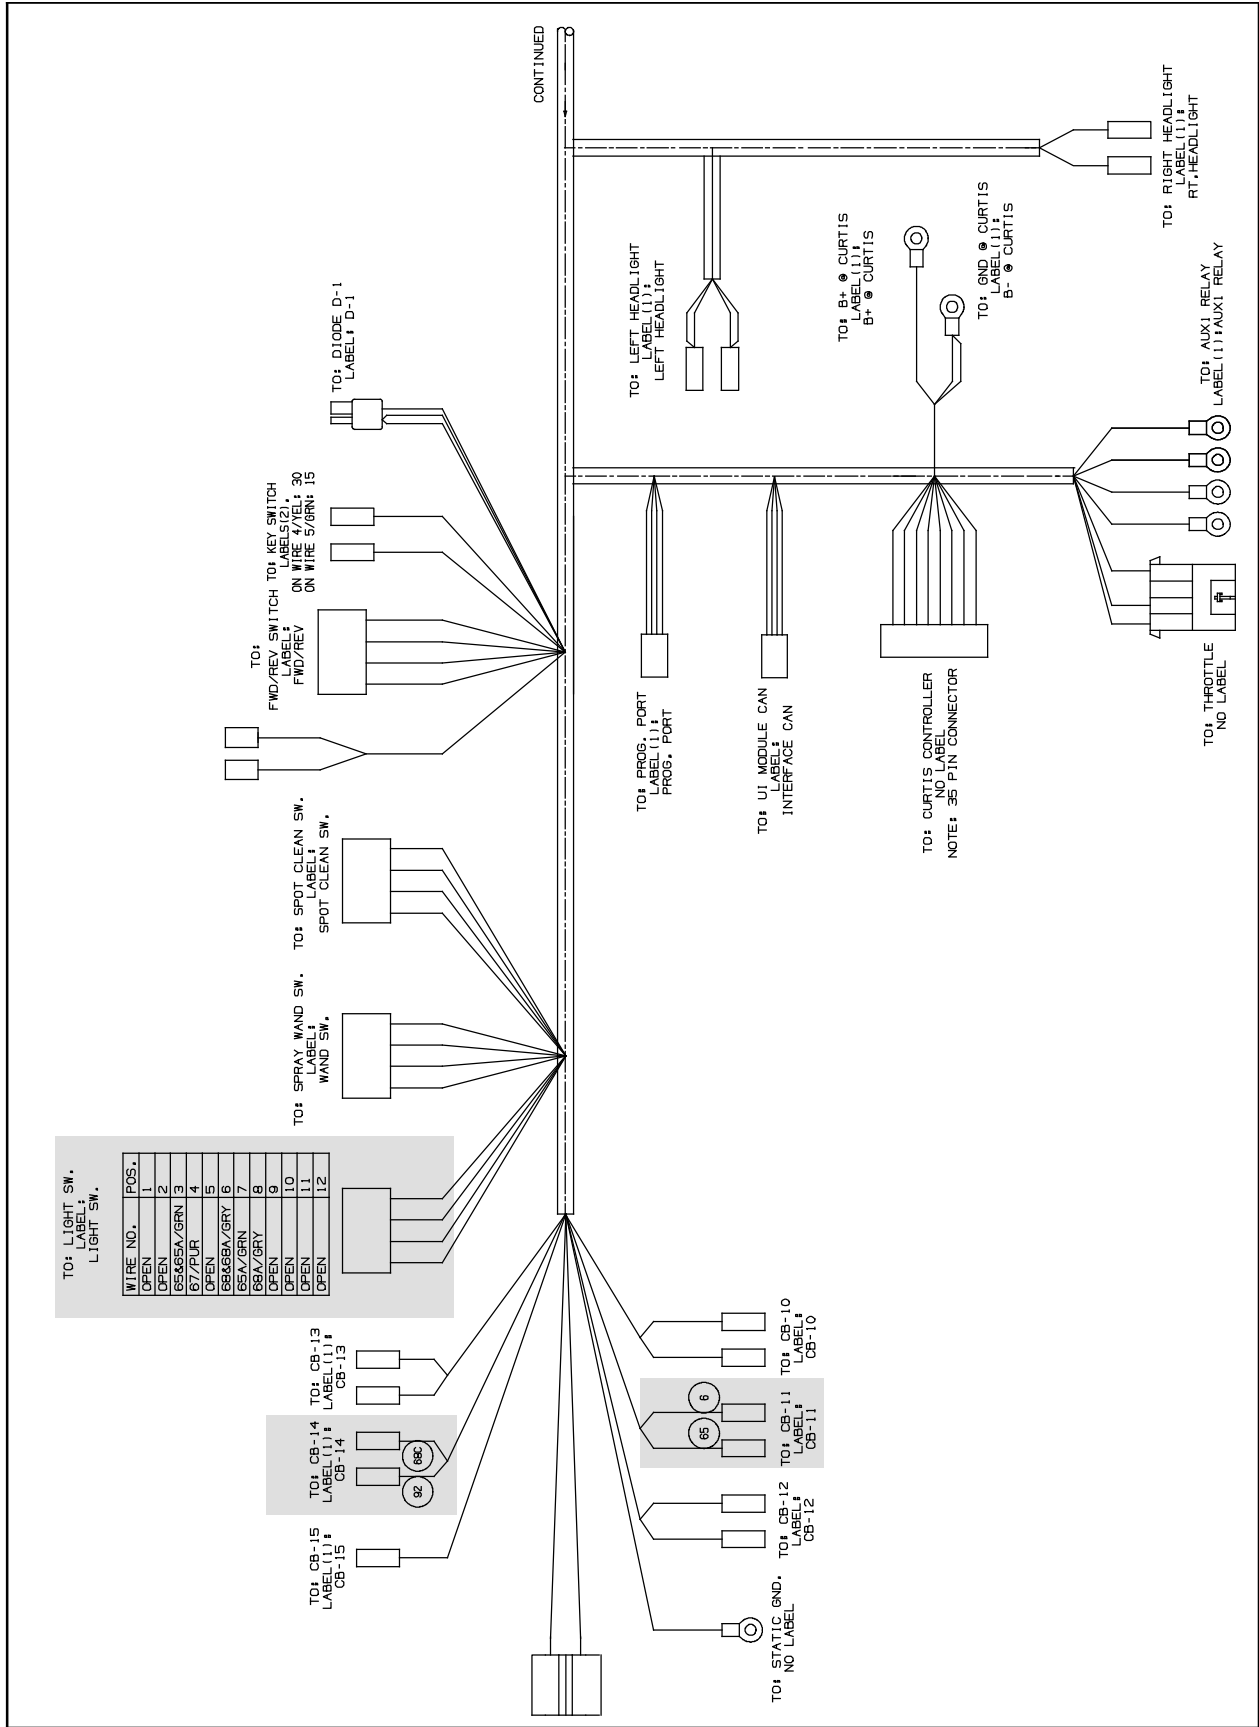
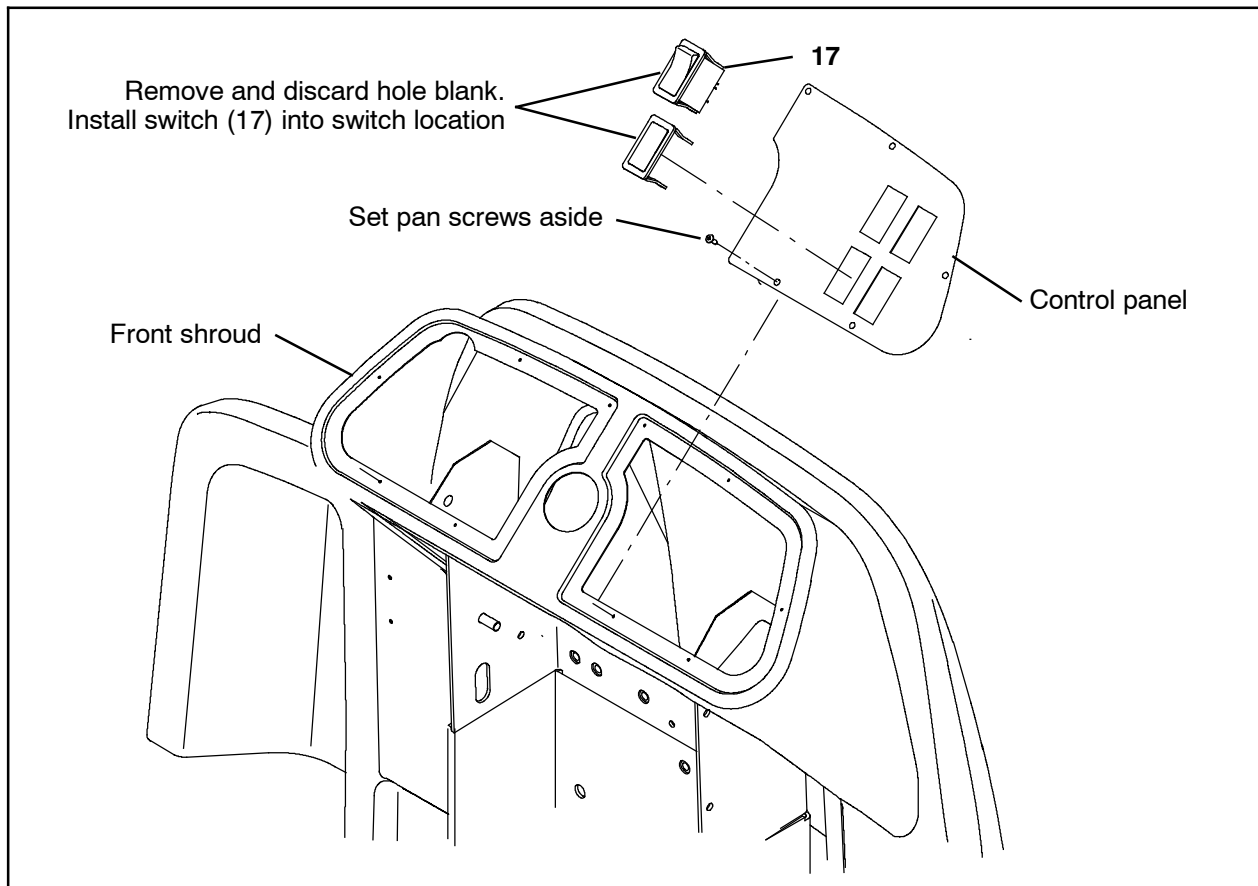
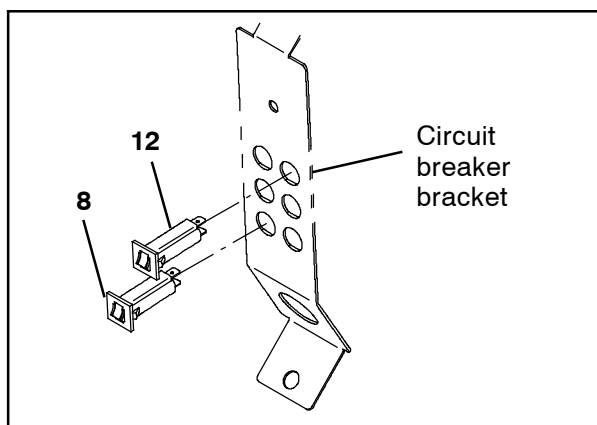

FIG. 9
FIG. 12
FIG. 15
12. Use two pan screws (20) to install the light module cover (18) onto the rest of the light / alarm assembly. (Fig. 15)
- 13. Remove the pan screws holding the control panel to the front shroud and set the pan screws aside. (Fig. 12)
- 14. Carefully pull the control panel from the front shroud. Do not break any wire connections when pulling the panel from the shroud. (Fig. 12)
- 15. Remove the hole blank from the control panel and discard the blank. (Fig. 12)
- 17. Connect the main wire harness to the switch (17). (Fig. 12 / Fig. 9)
- 18. Reinstall the control panel onto the front shroud. (Fig. 12)
22. **Machines without front light kit option only:** Insert the 15- Amp circuit breaker (12) into circuit breaker location 11 in the circuit breaker bracket. (Fig. 15)
23. Insert the remaining 2.5 Amp circuit breaker (8) into circuit breaker location 14 in the circuit breaker bracket. (Fig. 15)
24. Connect the main wire harness to the circuit breaker(s) installed in the previous step(s). (Fig. 15 / Fig. 9)